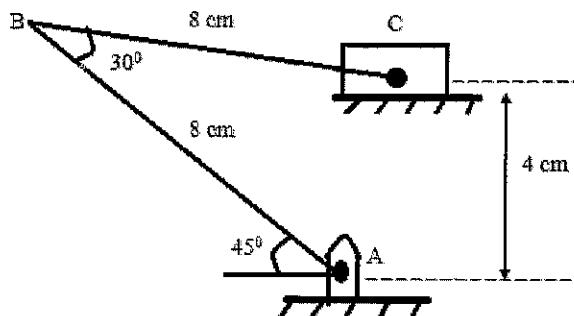

Figure 3(a)
- a) The Figure 3(a) shows that the crank AB rotates anti-clockwise at an angular velocity of 150 rad/s.
CLO 1 Represent Figure 3(a) using space diagram
CLO 1 b) By referring to Figure 3(a), sketch its velocity diagram and calculate the angular velocity of link BC